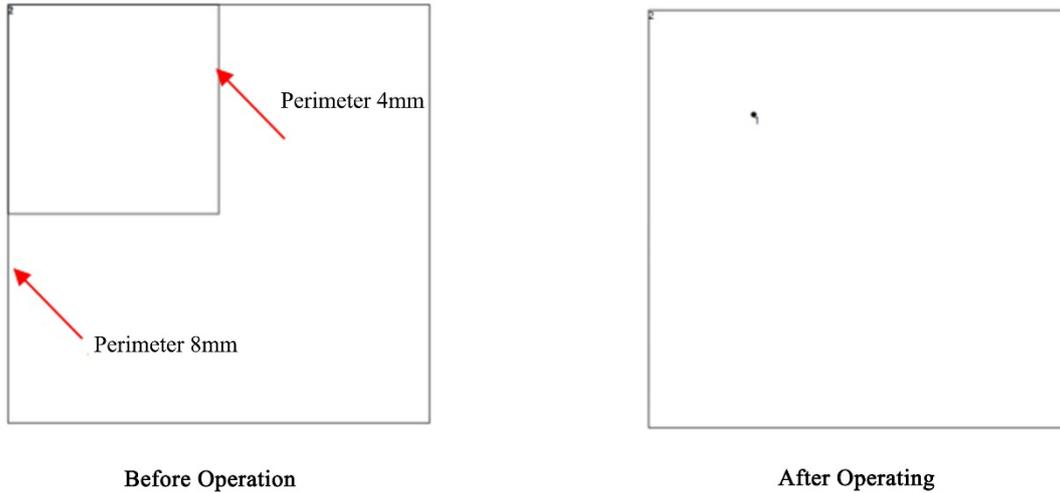

Fig. 5.9.2 Schematic Diagram of Closed Transforms Point
③ After clicking the OK button, closed graphics in the canvas that are smaller than the set value will be converted to points. The operation diagram is shown in Fig. 5.9.2 below.